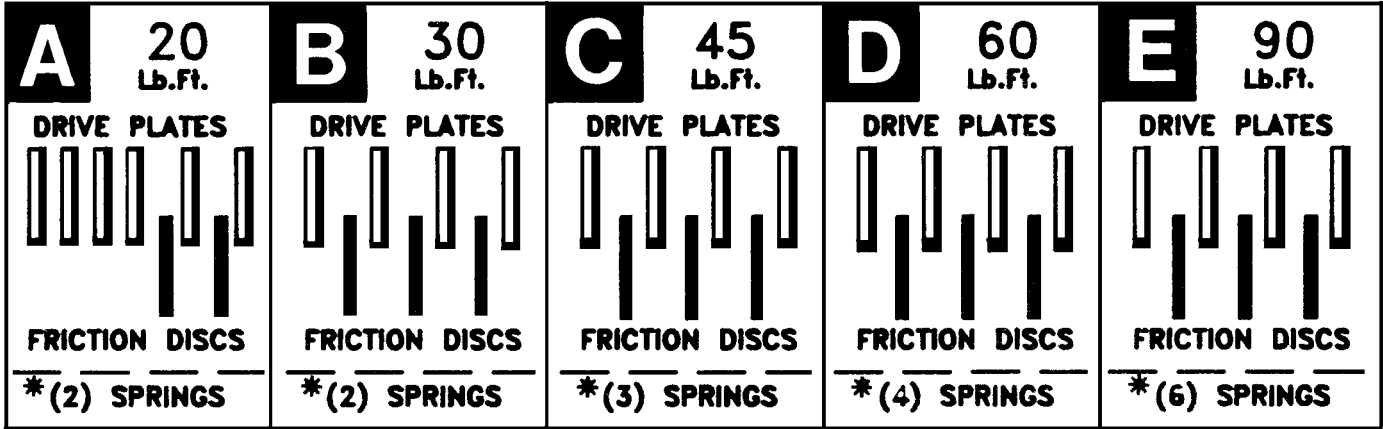

Figure 3-6
2. While air pressure is being applied, install drive plate #12 and friction discs #13 as determined by Figure 3-6 above.